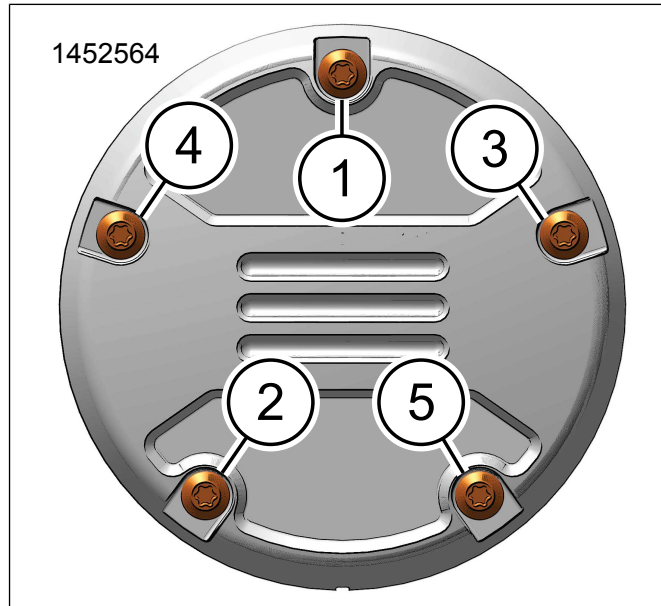

Figure 2. Torque Sequence (typical)
3. See Figure 2. Secure with screws in a star pattern sequence. Tighten.